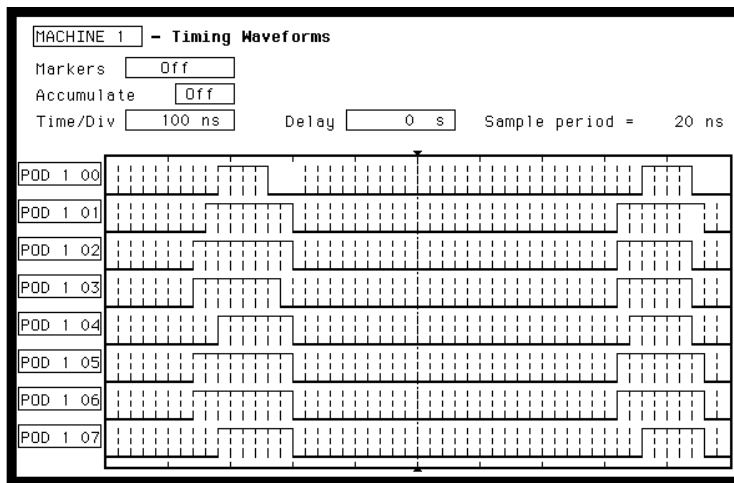

Figure 3-34. Glitch Test Timing Waveforms
6. Press RUN. The timing analyzer acquires data and shows glitches for channels under test as in figure 3-34. SELECT **Delay** field and rotate knob to assure consistent glitch detection.